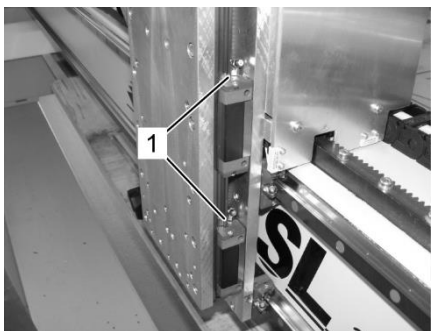

Fig. 44: position of the grease nipples without the cover on the Z-axis
There are four grease nipples (Fig. 44/1), two on each side of the Z-axis.
In the cover plate of the Z-axis (Fig. 44/1) there is a hole on each side. The Z-axis must be positioned so that the grease nipples are visible through the two holes.
3. Remove protective caps from the grease nipple of the Z-axis (Fig. 44/1), if present.